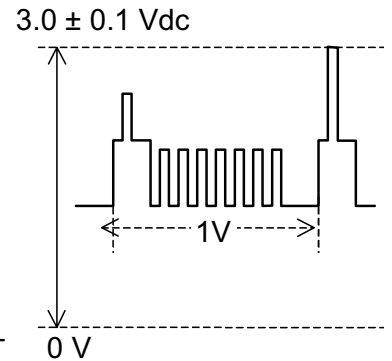

Figure 4
8. Connect an oscilloscope to TP852 on the CRT PWB. The waveform as in figure 4 should be displayed.